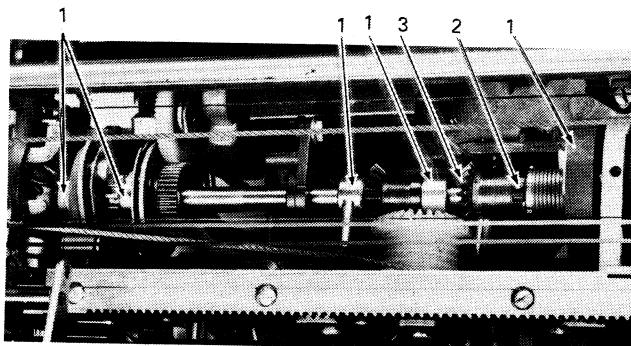

Figure 4-14. Operational Shaft Removal and Replacement
2. Loosen the setscrews in: the torque limiter hub, tab governor hub, tab governor collar, index/filter shaft cam ratchet, and operational shaft collar (No. 1, Figure 4-14).
3. Remove the clip from the carrier return pinion spring (No. 2, Figure 4-14).
4. Move the operational shaft slightly to the right and remove the retainer clip from the right side of the carrier return pinion (No. 3, Figure 4-14).